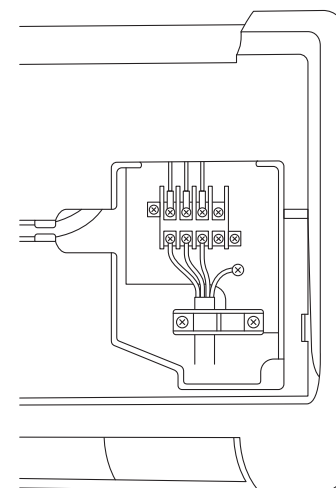

Fig. 26
- (4) Route the inter-unit wiring from the back of the indoor unit and pull it towards the front for connection. (Fig. 26)
- (5) Connect the inter unit wiring to the corresponding terminals on the terminal plate (Fig. 26) while referring to the wiring diagram.
- (6) Be sure to secure the wiring with the provided clamp.